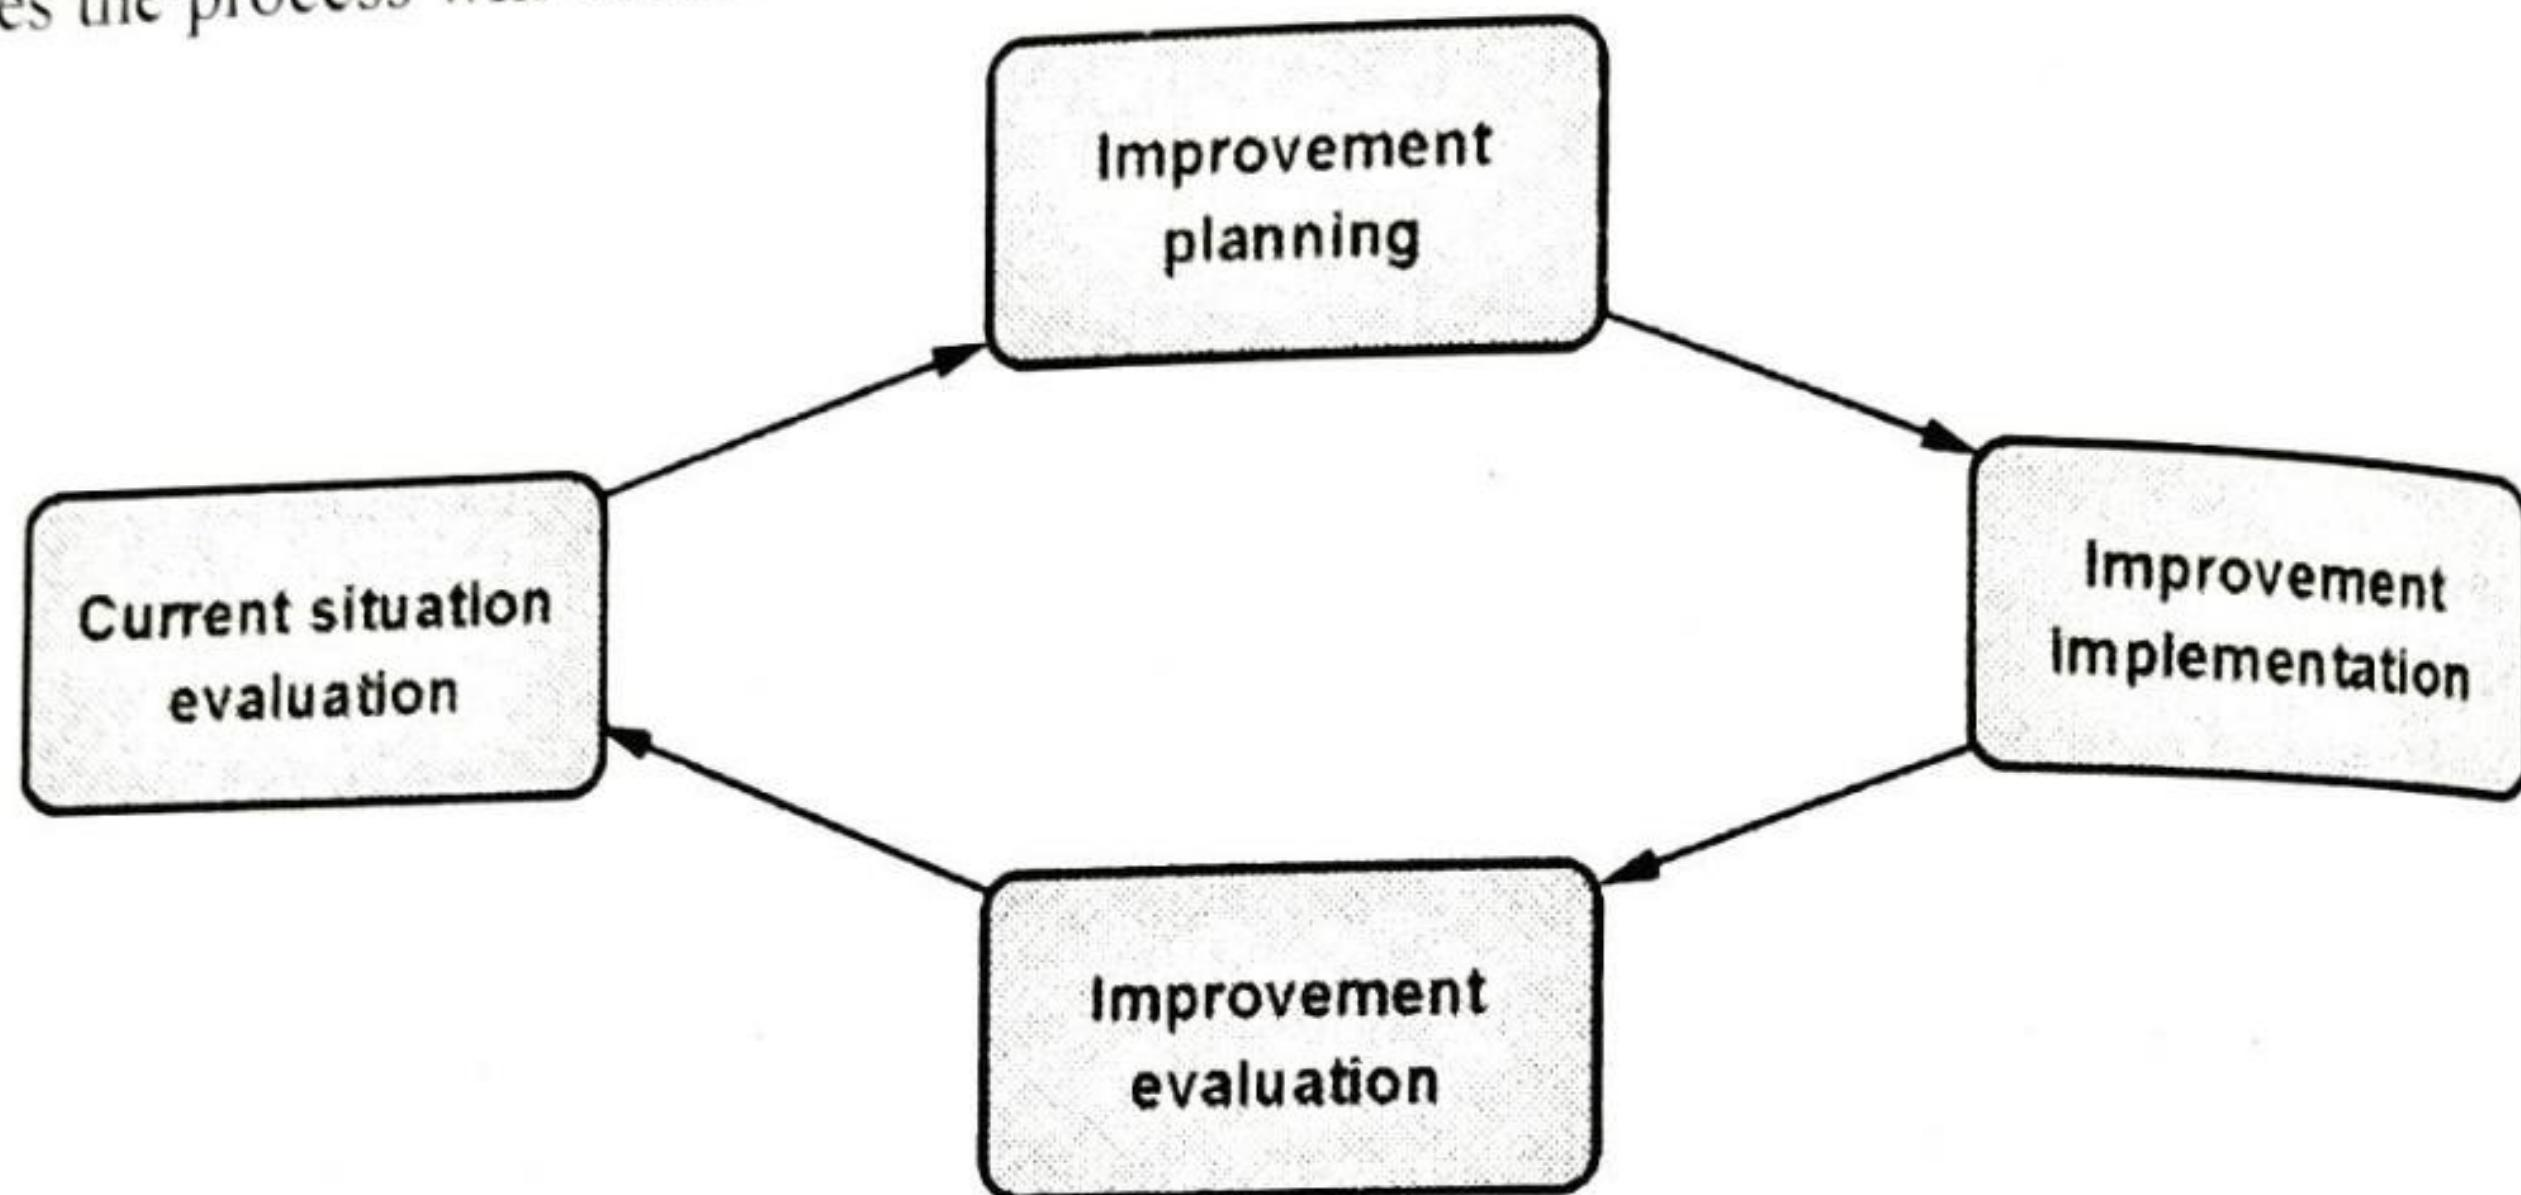

Fig. 3.12.1 : SPI 4 cyclic steps
- SPI mainly consists of 4 cyclic steps as shown in the Fig. 3.12.1, while these steps can be broken down into more steps according to the method and techniques used. While in most cases the process will contain these steps.